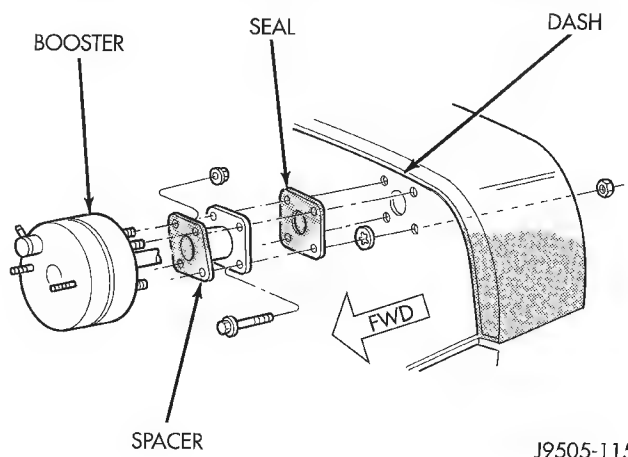

Fig. 27 Booster Mounting (With ABS)
(8) On ABS models, remove nuts attaching booster to spacer and remove booster (Fig. 27).